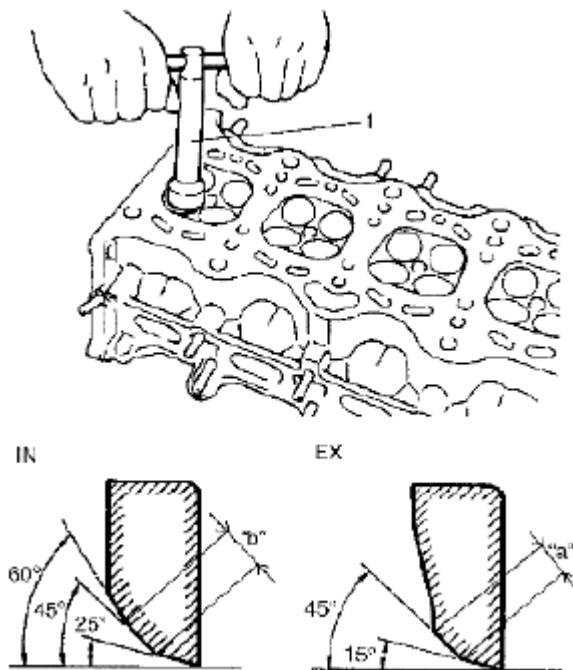

Fig. 132: Identifying Valve Seat Cutter
Use valve seat cutters (1) to make two cuts as shown in **Fig. 132**. Two cutters must be used: the first for making 15° angle, and the second for making 45° angle. The second cut must be made to produce desired seat width.
Use valve seat cutters (1) to make three cuts as shown in **Fig. 132**. Three cutters must be used: the 1st for making 25° angle, the 2nd for making 60° angle, and 3rd for making 45° angle. The 3rd cut (45°) must be made to produce desired seat width.